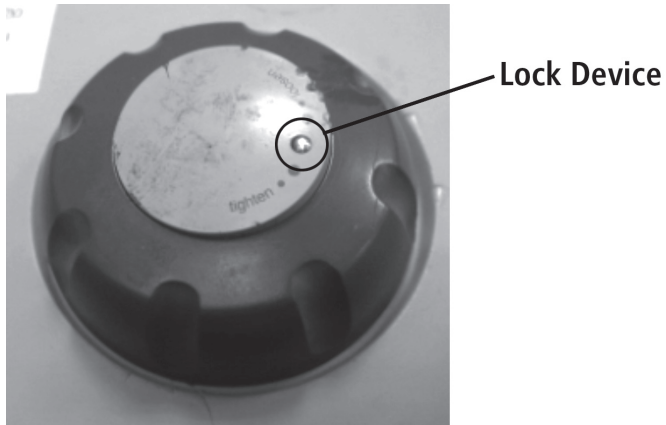

Fig.7
2.3.1 Use a tweezers to remove the small hot lid lock device. As Fig.7